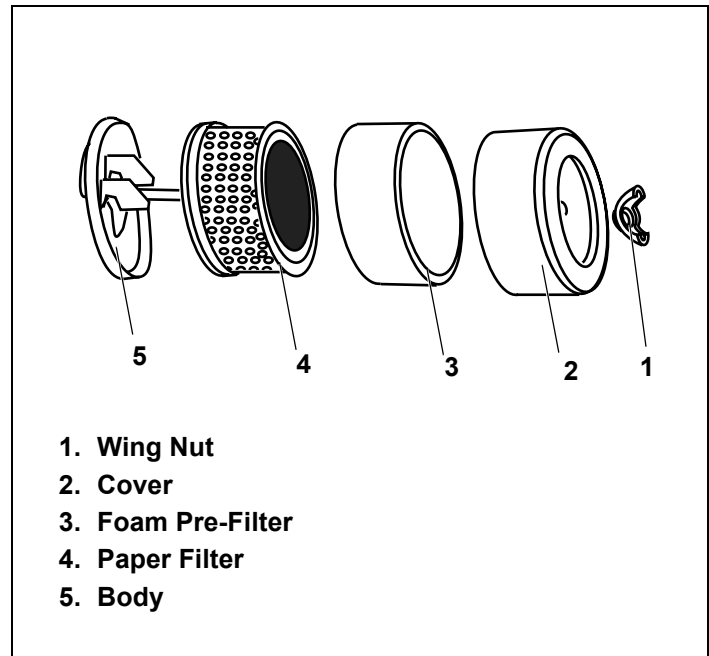
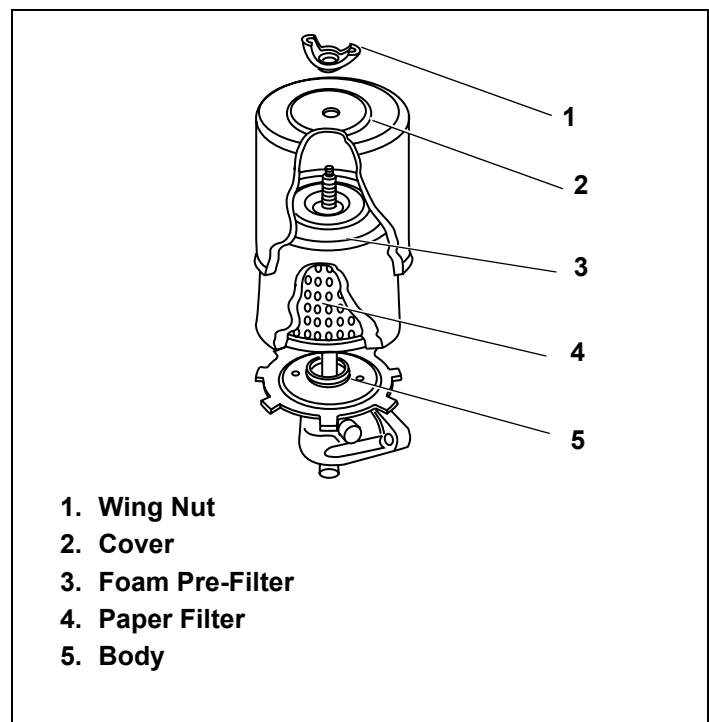

Figure 33. Air Cleaner "A"
Figure 34. Air Cleaner "B"
Your engine has an air cleaner which helps prevent premature engine wear and failure. NEVER run engine without complete air cleaner installed on engine. Your air cleaner periodically needs to be cleaned or replaced. To do this, you first need to determine the type of air cleaner on your engine. Your engine will be equipped with one of the following air cleaners; Type A or B. Follow instructions for the air cleaner type that resembles your model. See Figure 33 and Figure 34.
1. Remove wing nut. See Figure 33 or 34.